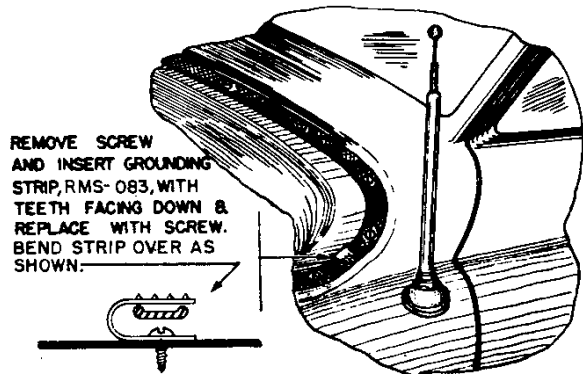

Fig. 6. Hood Bonding
5. Install the two auto motor compartment hood bonding springs, one on each side of car, as shown in Figure 6.